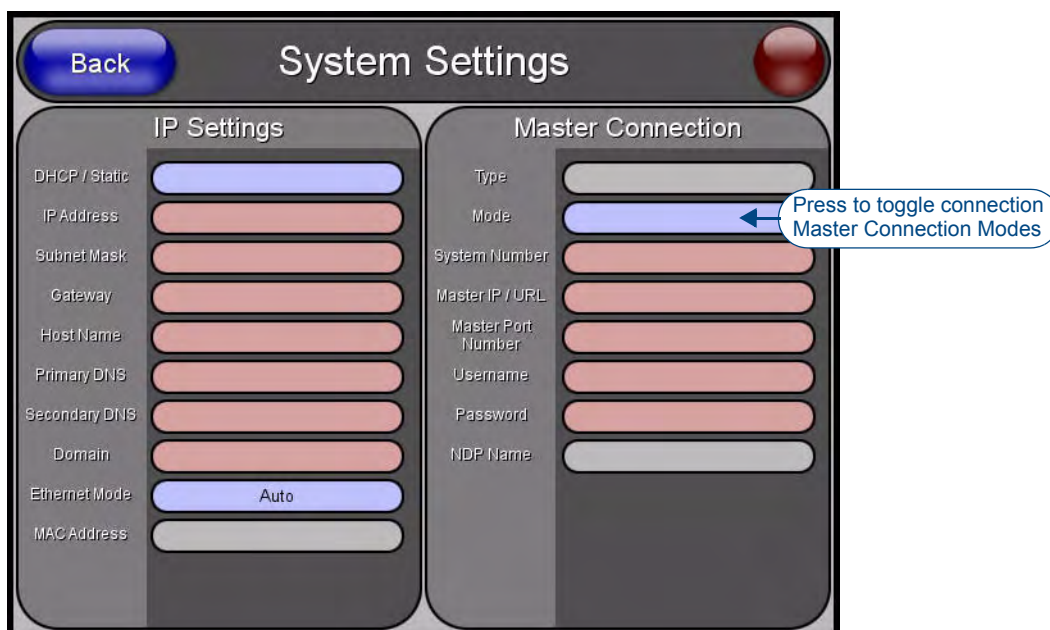

FIG. 89 System Settings page
- c. Press the **System Settings** button to open the *System Settings* page (FIG. 89).